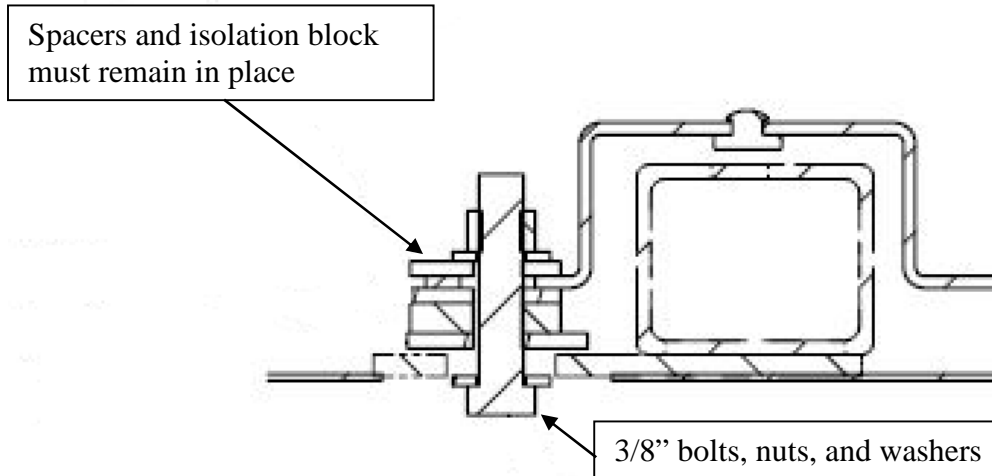

Figure 4: 3/8" bolts, nuts, washers, spacers and isolation blocks. Curb side shown
☞ **NOTE: The spacers and isolation block used between the bus structure and wheelchair ramp must remain in place. Figure 4.**
9. On the curb side, one at a time, remove and discard the 3/8" bolts and nuts that mount the wheelchair to the bus structure. Reuse the washers. Use a new bolt NF # 10B06028 and a new nut NF # 10N06000. Add a few drops of Loctite 243 to the threads and torque to 17 FT-LB. Figure 4.